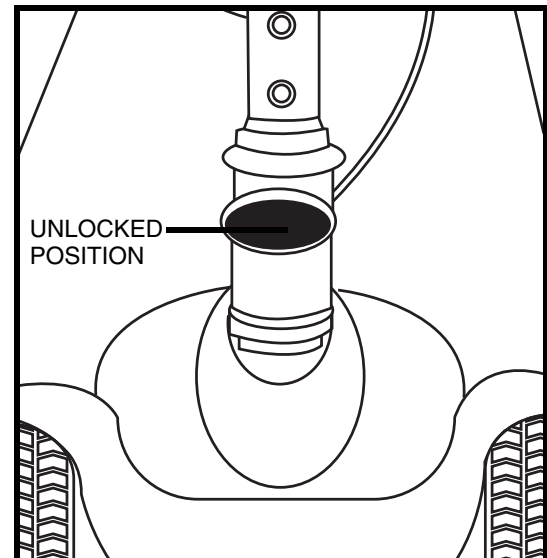

Figure 22. Tiller Lock Knob (Unlocked)
6. Unlock the front wheel by turning the tiller lock knob 90° counterclockwise. See figure 22.